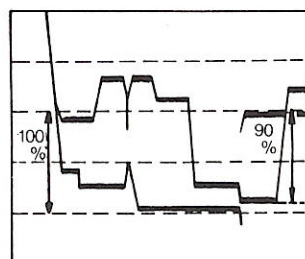

Fig. 6
6. Adjust the waveform as shown in the diagram with VR604. (Refer to Fig. 6)